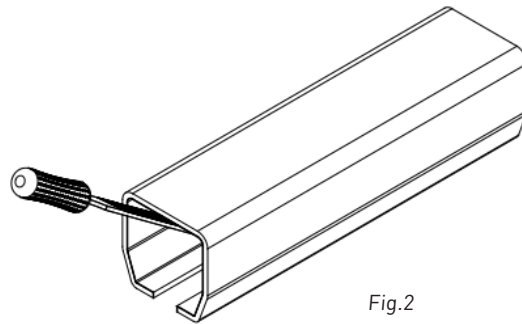

Fig.2
STEP 2: Grind/debur the cut edges. All burrs must be thoroughly removed, to ensure free/smooth trolley movement during operation. All track profile edges should be lightly chamfered (max chamfer 0,3mm), using a metal file, as to eliminate any possible "gaps" or "steps" at the profile connection points. (fig.2)